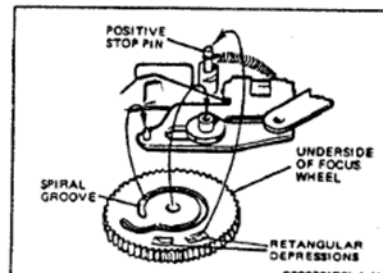

FIGURE 4-41 FOCUS WHEEL CONFIGURATION
- Examine the underside of the focus wheel. Note two rectangular depressions and a spiral groove (Figure 4-41). One depression is positioned closer to the end of the groove. When the focus wheel is positioned on the follower, the positive stop pin must engage the rectangular depression farthest from the groove. The pin of the cam follower must engage the spiral groove. Install the wheel so these conditions are satisfied.